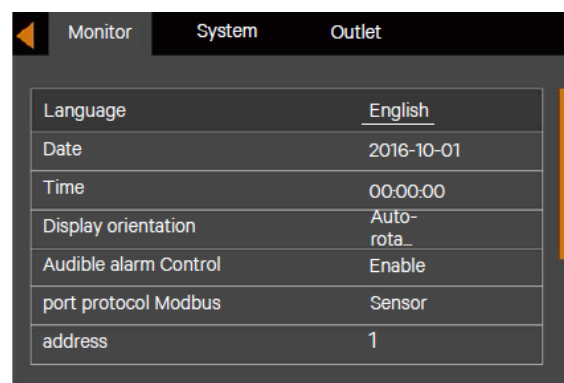

Figure 5-11 Changing Language
4. Press the  or  key to select the language you need, then press the  key to confirm it. At this time, the LCD contents will be the language selected by you. See Figure 5-11.